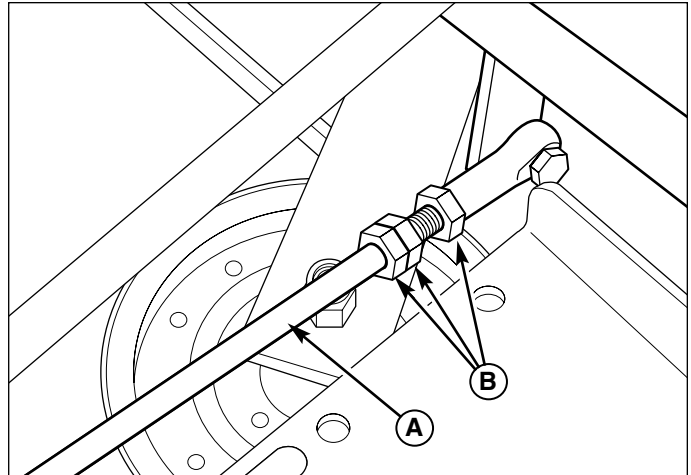

Figure 28. Neutral Adjustment
2. There are three (3) nuts on the linkage rod. The first two are to be used together to turn the rod and the third (towards the front of the machine) is used to lock the rod in place. Loosen the jam nut that locks against the clevis (B, Figure 28) and turn the linkage rod (A, Figure 28) to adjust. If the machine creeps forward, turn the rod CLOCKWISE (while standing at the rear of the machine, facing forward), if the machine creeps backward, turn the rod COUNTER-CLOCKWISE.
3. Lock the jam nut (B, Figure 28) against the clevis when neutral is achieved.